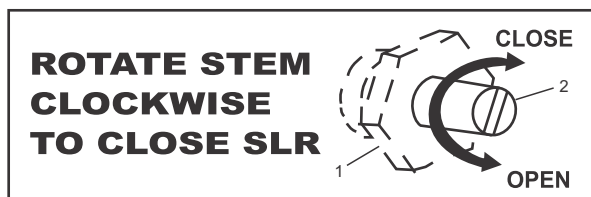

Figure 7: SLR setting
6.3 Setting of Steam Lock Release (SLR): (Refer to figure 7)